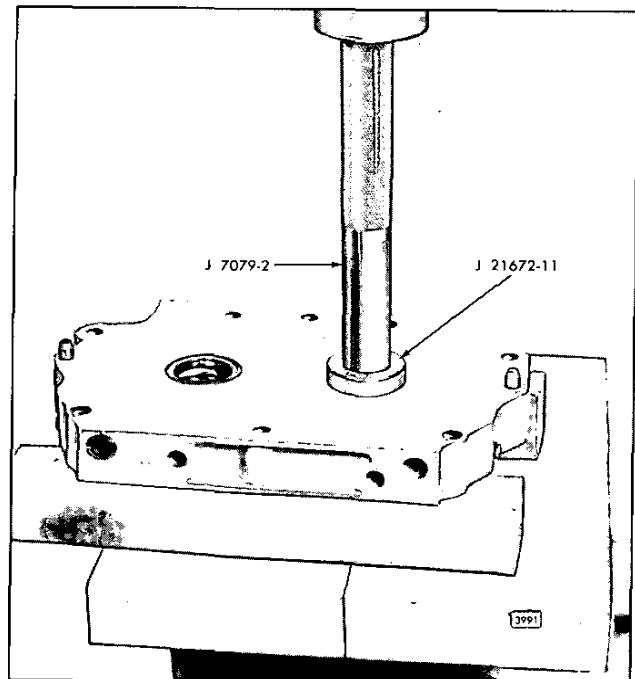

Fig. 8 – Removing Oil Seal and Roller Bearing from Rear End Plate (Former Blower) Using Tool J 7079-2
- a. Support the blower end plate, inner face up, on two wood blocks on the bed of an arbor press as shown in Fig. 8.
- b. Place the oil seal remover J 21672-11 with handle J 7079-2 on top of the oil seal and under the ram of the press, then press the oil seal and bearing out of the end plate as shown in Fig. 8. Discard the oil seal.